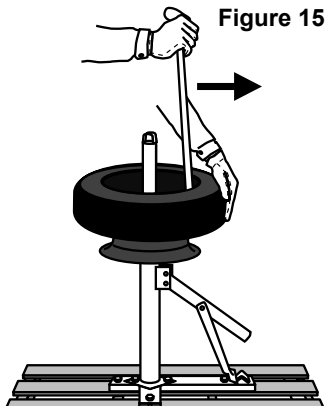

Figure 15
4. Push down on tire with free hand as you work bead behind rim. If needed push Bar along Center Post for added leverage. See Figure 15, below.